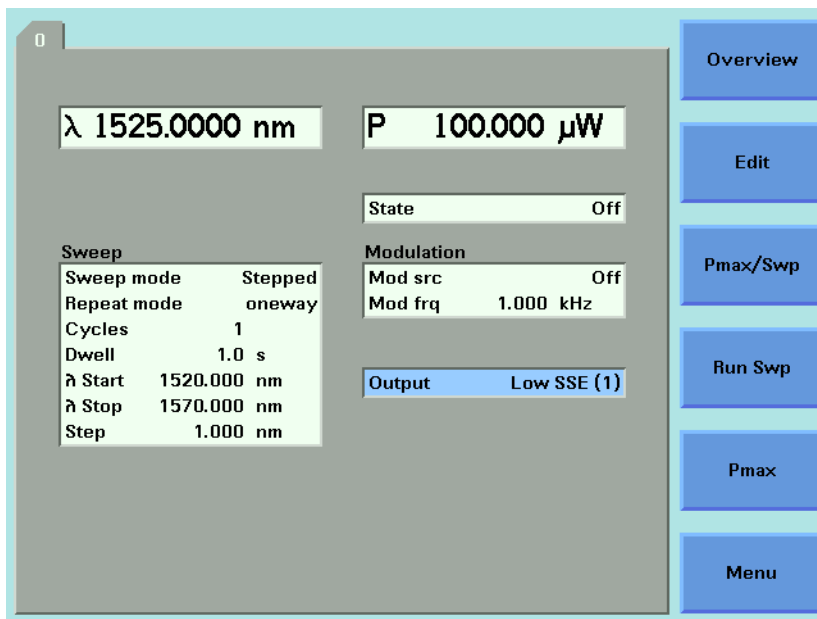

Figure 78 Setting Low SSE parameter
- <Low SSE (1)>, a lower power optical output with low Source Spontaneous Emission (SSE), for example, for use in passive component test, you see a screen similar to Figure 78 on page -137,